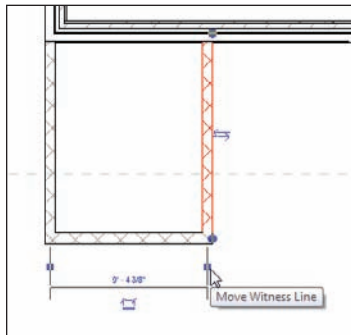

FIGURE 2.23 Temporary dimensions can be adjusted to measure from different wall faces by picking the witness line grip.
1. Select the right, vertical CMU wall. You will see a blue temporary dimension appear along the bottom wall. (If the dimension does not go to the point indicated, click the blue grip. This will move it to the correct location as shown in Figure 2.23.) This dimension indicates the centerline increments, as shown in Figure 2.23.